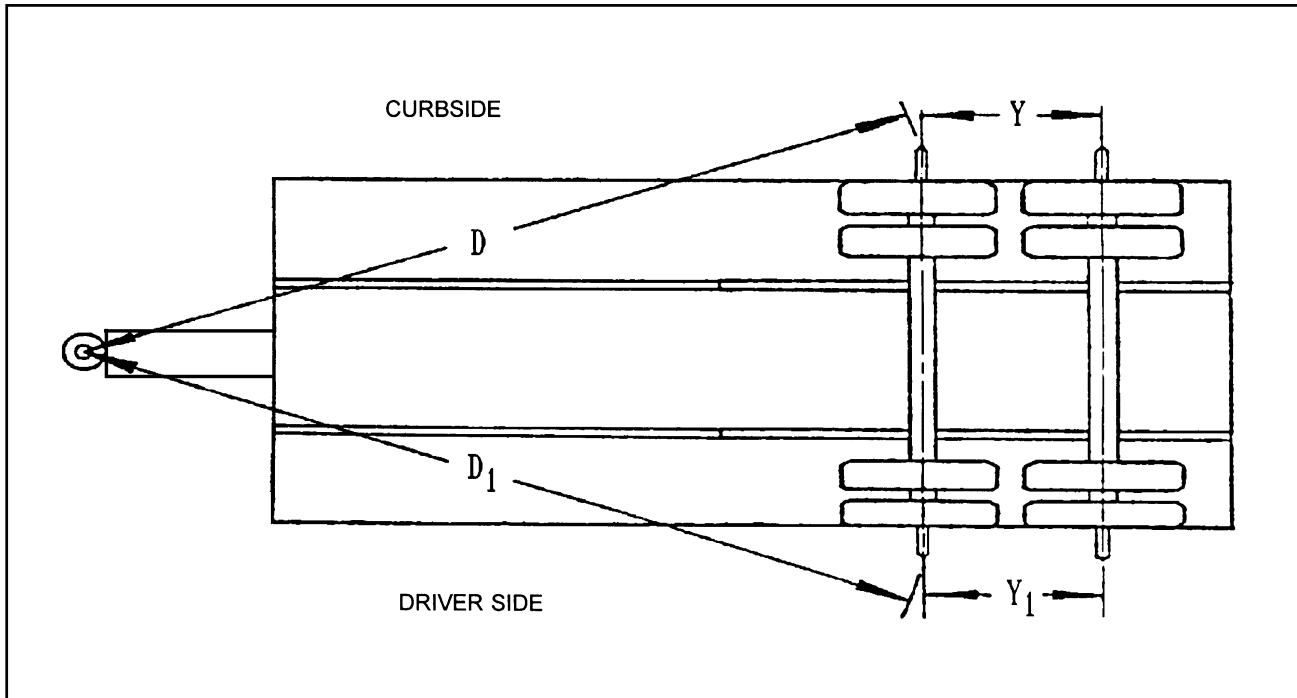

Figure 4-7 Checking Axle Alignment
4. Measure (D) from the plumb bob to the center point on one end of the axle. Record this measurement (See **Figure 4-7**).
5. Measure (D1) to the other end of the axle in the same manner as in **Step 4.** Record this measurement (See **Figure 4-7**).